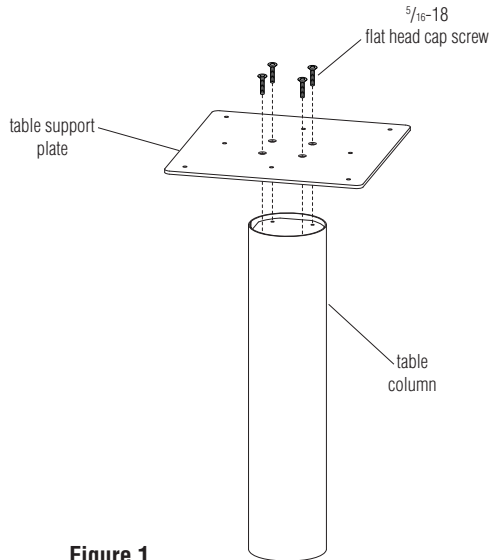

Figure 1
1. Carefully remove contents from packaging and view Figures 1 & 2 to familiarize yourself with the table base parts. If the table support plate was shipped attached to the Athens base assembly, unbolt the two before beginning assembly.
2. Position the table support plate as illustrated over the table column. Make sure the tapered, counter-sunk holes in the plate are facing up for the screw heads to nest into. Attach the plate to the column using four $\frac{5}{16}$ -18 flat head cap screws provided. Using a $\frac{3}{16}$ " hex driver, tighten screws to between 20 and 25 foot pounds of force (Figure 1).